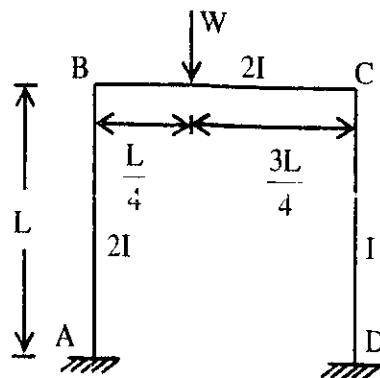

Fig 10
Q.4 A portal frame ABCD is fixed at A and D, has rigid joints at B and C. It is loaded as shown in Fig 10. Solve the frame using column analogy method and plot the B. M. D.